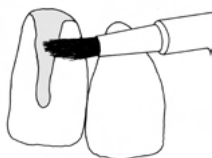

Fig. 4
8. Wipe the brush on a gauze pad to remove excess adhesive. Repeat the brush-dip procedure until the entire metal surface has been opaqued with a thin, even layer of C&B-Metabond. (Fig. 4)